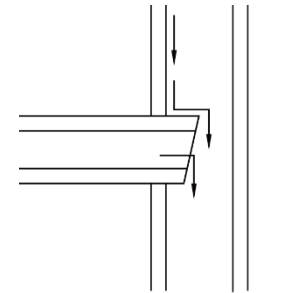

Fig. 16
- Inserting pipe connection (Fig. 16)